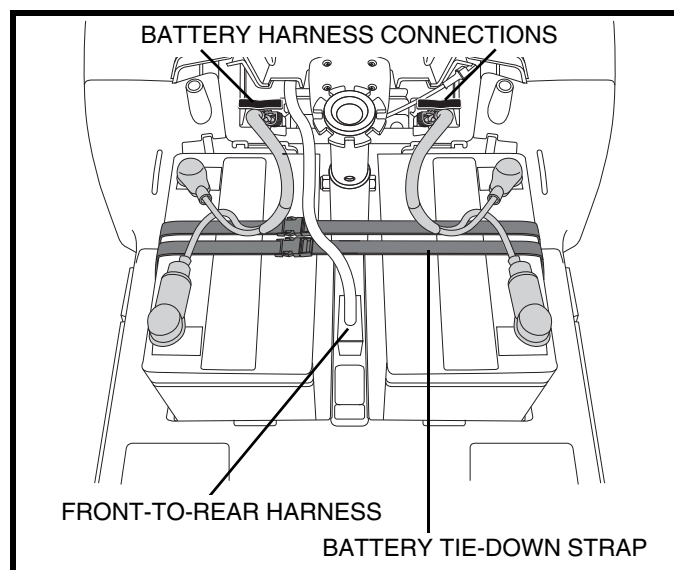

Figure 24. Harness Connections
5. Unplug both battery harnesses by pulling each harness out of its mating plug. See **figure 24**.
8. Connect both battery harnesses. **See figure 24.**